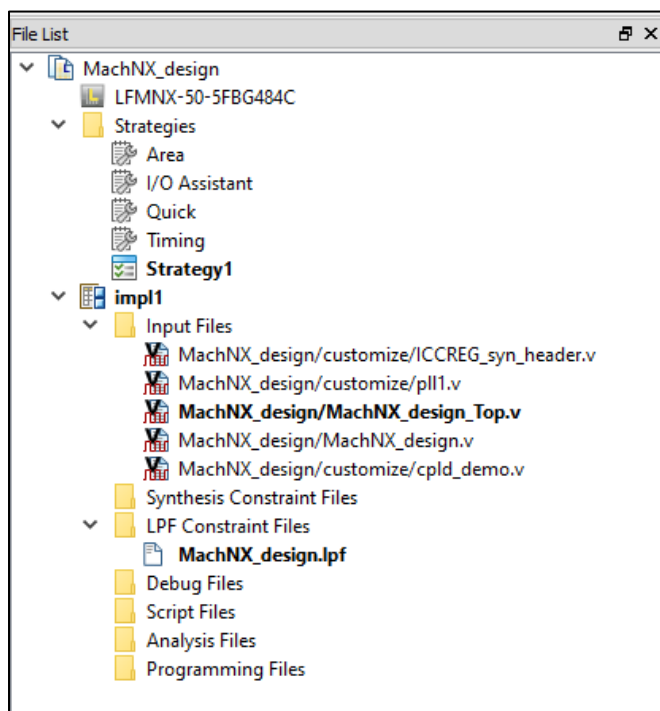

Figure 3.10. Diamond File List
- Note that the UserCode is an optional user-accessible field that can be used for version number data. It does not have to match Figure 3.10, as it will depend on the design requirements.